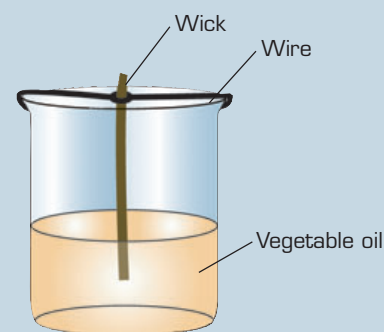

figure ef.3
- 2 Bend the wire to form a wick holder. Hook the free ends of the wire over the rim of the beaker to hold the wick in place. Make sure that the bottom end of the wick is dipping into the oil (see figure ef.3). This is called the oil burner.